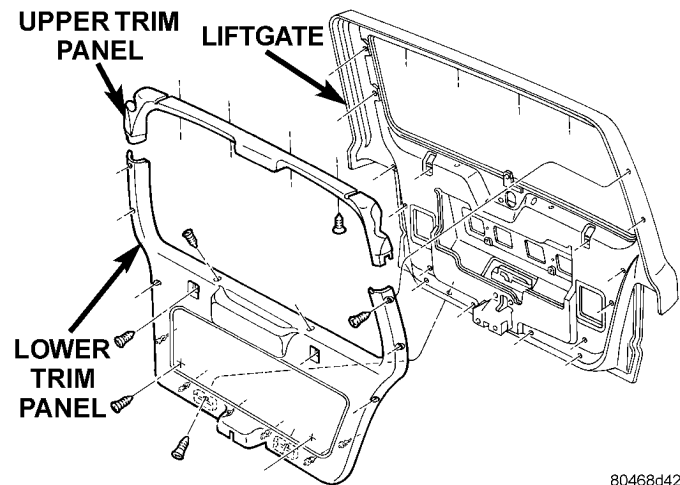

Fig. 59 Liftgate Trim Panel
- (1) Remove screws attaching upper trim panel to liftgate (Fig. 59).
- (2) Remove screws at upper and lower trim panel overlap.
- (3) Disengage the connector for the rear window defogger.
- (4) Route the wire harness through the trim panel.
- (5) Gently, pull trim panel downward. If necessary rotate trim panel away from glass panel to release push-in fasteners.
(1) Remove screws attaching lower trim panel to liftgate (Fig. 59).
(2) Use a trim panel removal tool to detach push-in fasteners from liftgate.